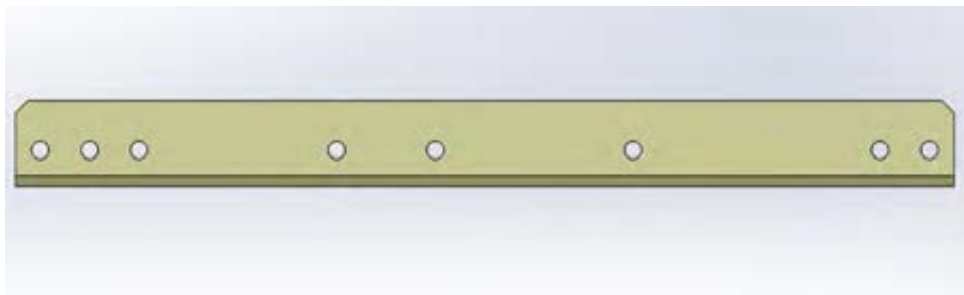

Figure 16. Support rail length for a solar panel with a tilt angle of 40-45°
- a. For optimum tilt angles of 40-45°, use the entire support rail as shown in **Figure 16**.